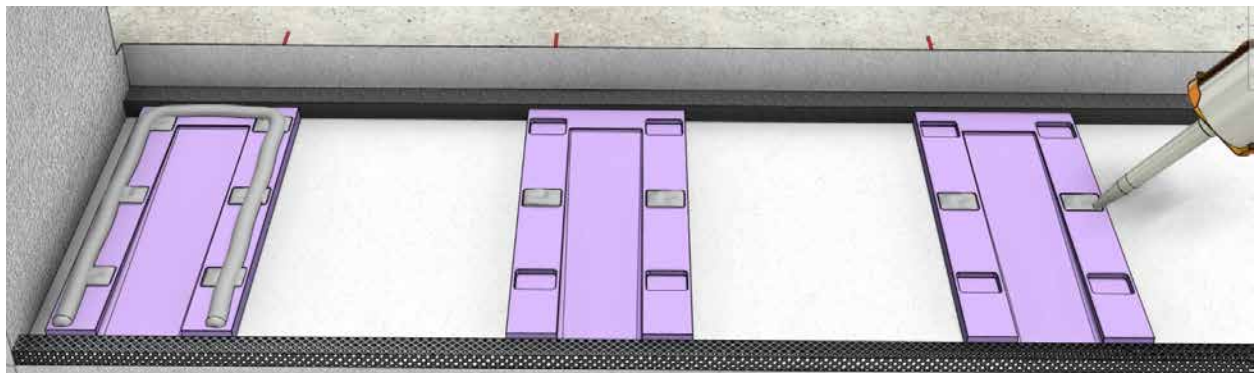

Fig 21
- Repeat these steps for the drainage shims at each end of the rough opening (Fig 21).
- Ensure that the screw heads are completely covered with sealant. (Fig. 21)